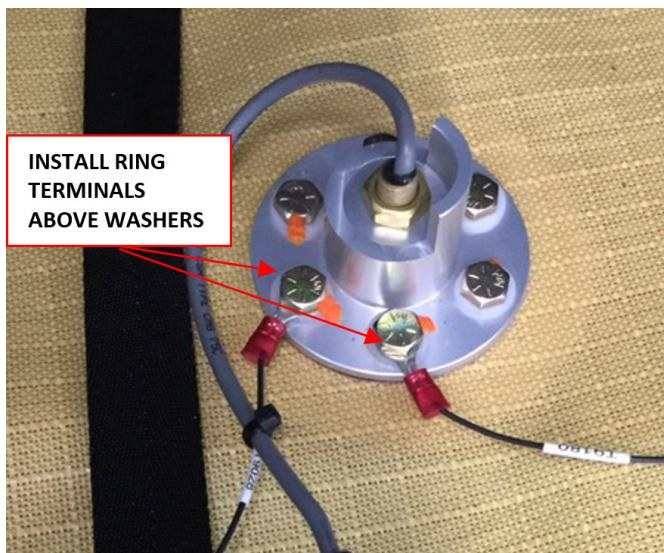

Figure 10 – Fuel level sensor orientation.
1. Install new PROBE, FUEL LEVEL SENSOR into bladder fuel tank, Figure 10: